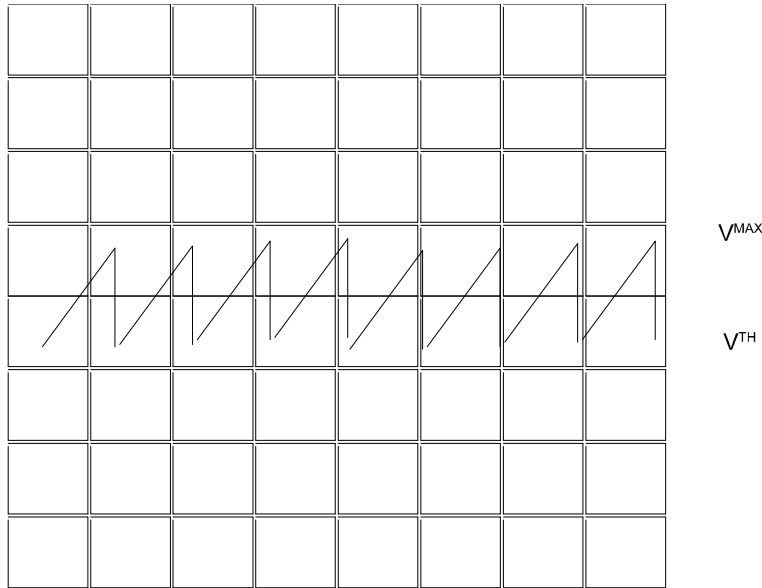

Figure 2: TPI Waveform
- Connect an oscilloscope to TP1 using an isolated probe. Set the time base on the scope to 1mS and set the coupling of the scope to DC. The waveform at TP1 is a saw tooth waveform. Adjust P1 to set the value of the threshold voltage ( $V^{\text{th}}$ ). Adjust P2 to set the value of the 100% duty cycle voltage ( $V^{\text{max}}$ ). See Figure 2 for a visual description of the waveform and adjustment points.